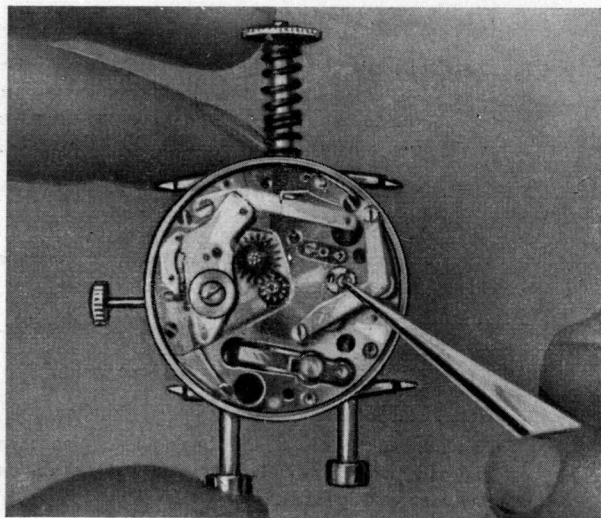

Fig. 7
- (6.1.3) Release the lower yoke screw lift off the lower yoke together with the working magnets (see Fig. 7).